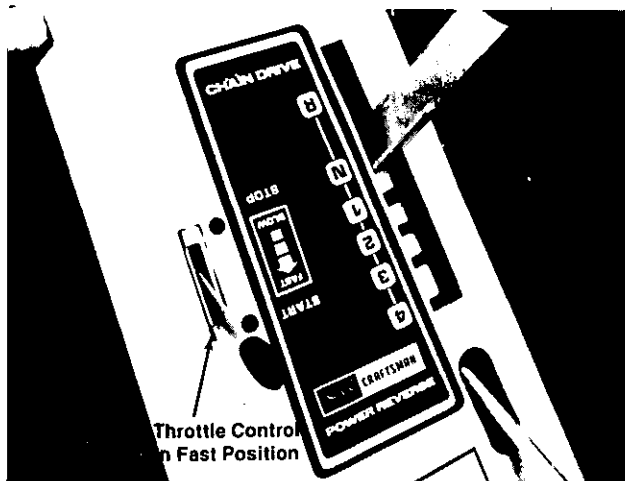

FIGURE 24.
4. Move the throttle control lever forward to FAST POSITION. See figure 24.
If engine is warm, start with the control in the "FAST" position. Choking may not be necessary. See figure 24.
- B. Neutral (N)—Move lever to center detent. See figure 24.